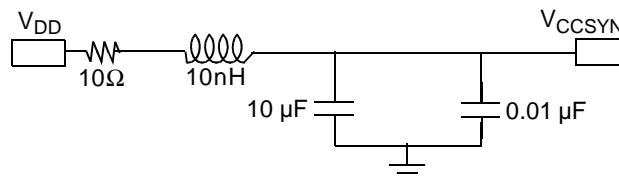

**Figure 33. Core Power Supply Decoupling**
**Figure 33** shows the recommended power decoupling circuit for the core power supply. The voltage regulator and the decoupling capacitors should supply the required device current without any drop in voltage on the device pins. The voltage on the package pins should not drop below the minimum specified voltage level even for a very short spikes. This can be achieved by using the following guidelines:
- Decouple the supply using low-ESR capacitors mounted as close as possible to the socket. **Figure 33** shows three capacitors in parallel to reduce the resistance. Three capacitors is a recommended minimum number. If possible, mount at least one of the capacitors directly below the MSC8126 device.